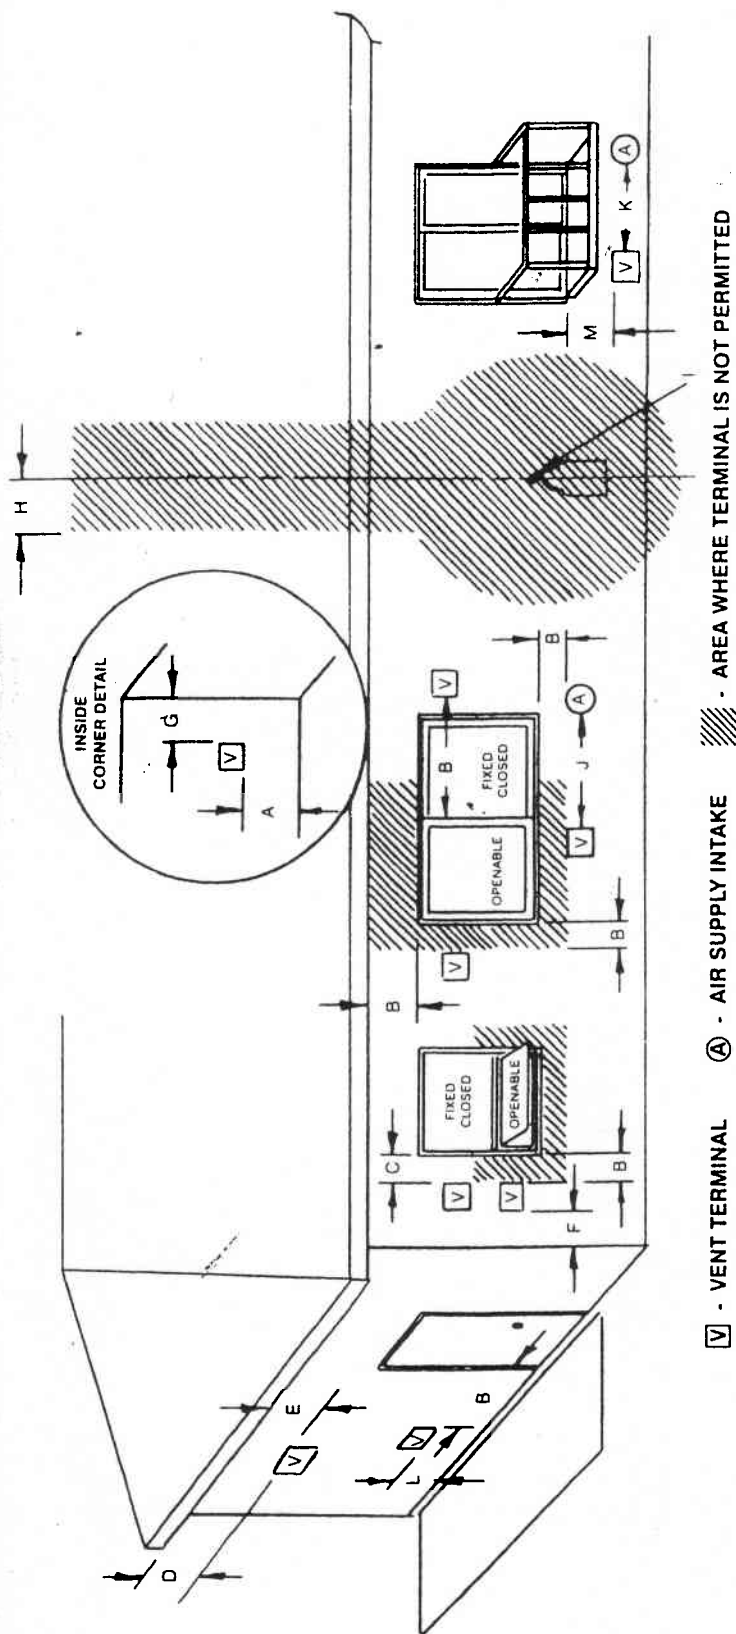

Figure 3 - Vent Terminal Locations
- 2) The location of the horizontal vent termination on an exterior wall must meet all local and national building codes, and must not be easily blocked or obstructed. The vent terminal shall not be recessed into a wall or siding. Refer to Fig. 3.